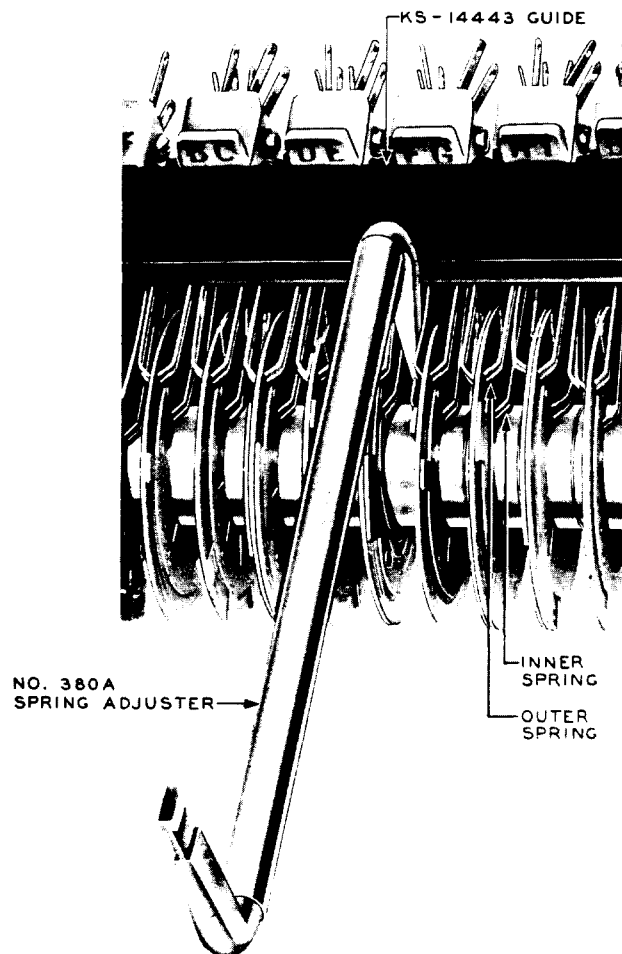

Fig. 4 - Method of Removing Worn Inner Spring Tips
3.09 With the guide properly located as described in 3.02, place the 380A spring adjuster on the inner spring the tip of which is to be replaced. If the slot in the spring adjuster is too narrow to engage the spring, try another 380A spring adjuster or slightly widen the slot with the KS-6854 screwdriver. Push the adjuster back on the spring so that it rests against the guide as shown in Fig. 4.